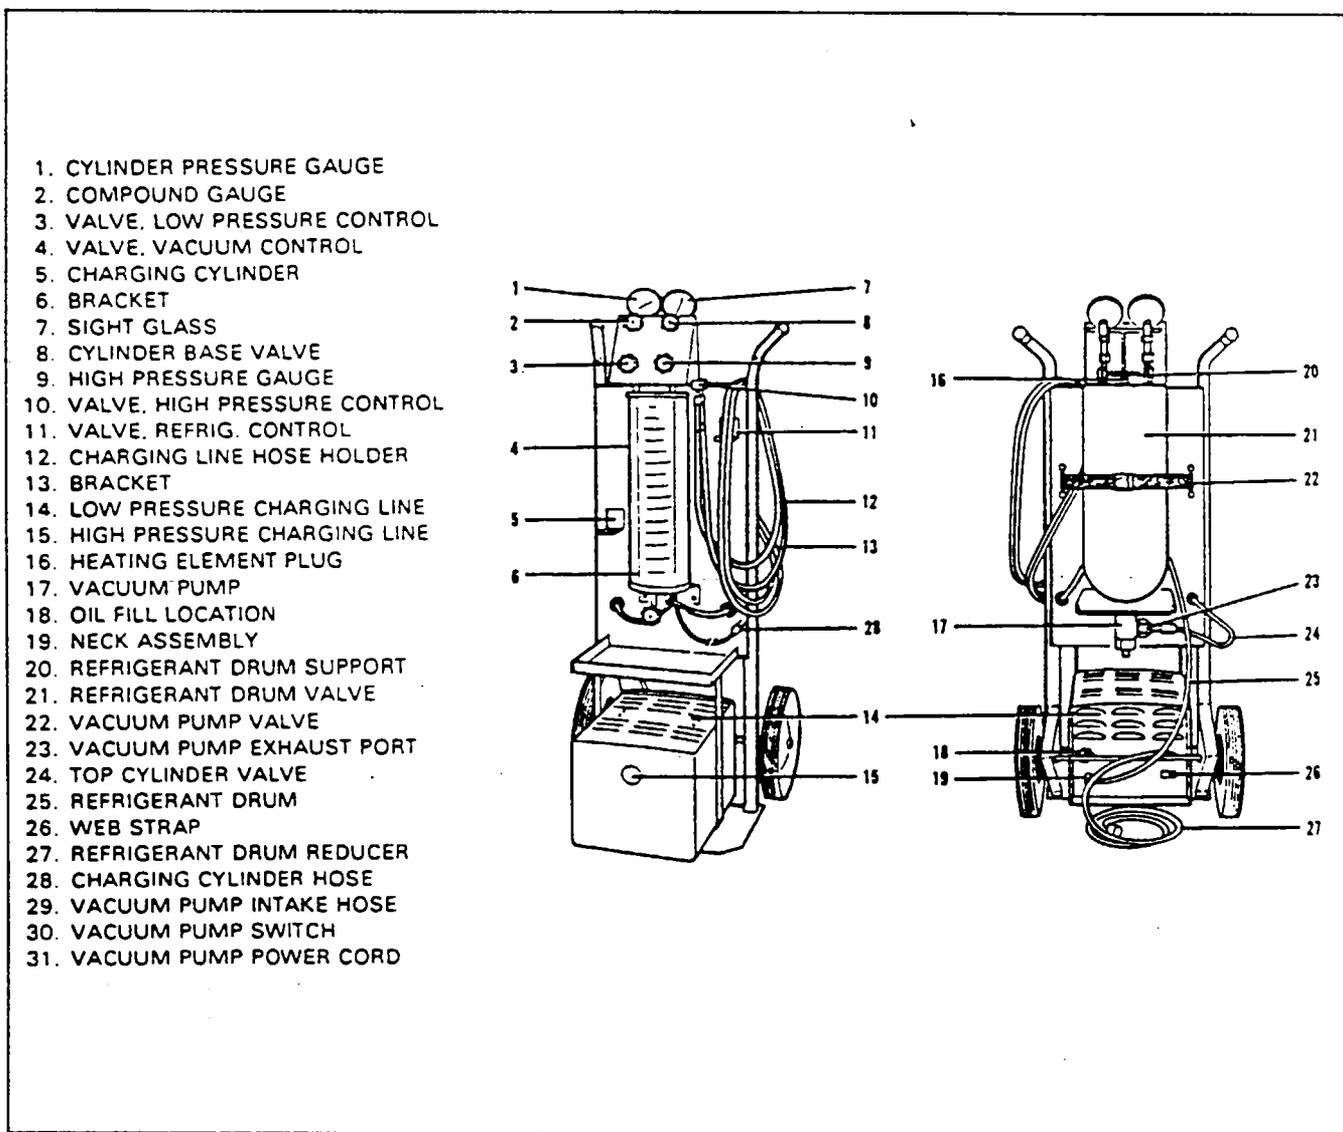

Figure 21-25. Charging Stand
*Applies to Kent Moore J23500 or similar charging station, (Refer to Figure 21-25.)*
*The following instructions apply to Kent Moore, J23500 charging stand (Refer to Figure 21-25.)*